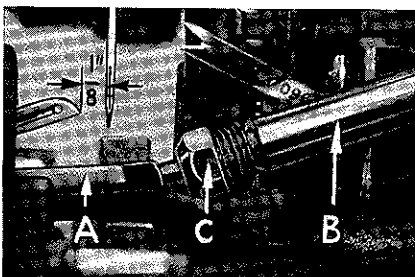

Fig. 4
At this point, insert lower looper (A, Fig. 4) into bar (B). With lower looper at the left end of its stroke, set looper point $1/8$ inch from center of needle (Fig. 4), using looper gauge No. 21225- $1/8$. Do not have lower looper deflecting needle. Tighten nut (C).